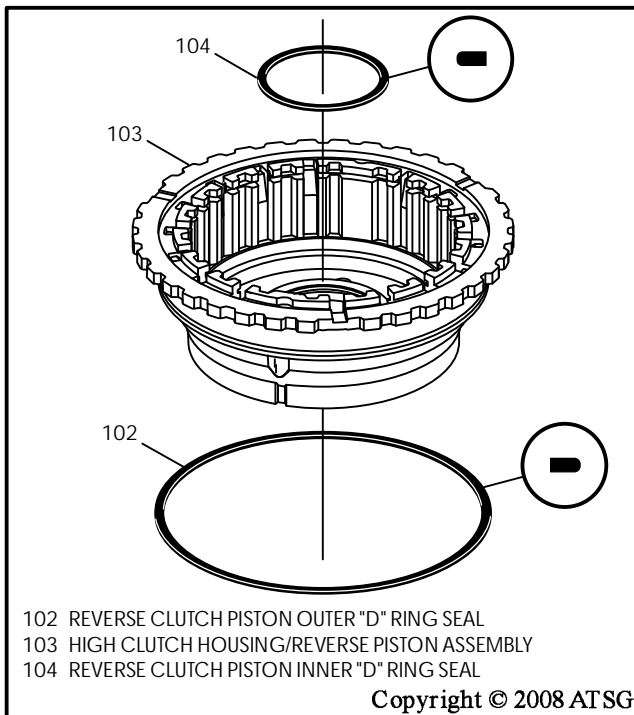

Figure 135
5. Install new inner and outer "D" ring seals onto the reverse piston, as shown in Figure 135, and lube with small amount of Trans-Jel®.